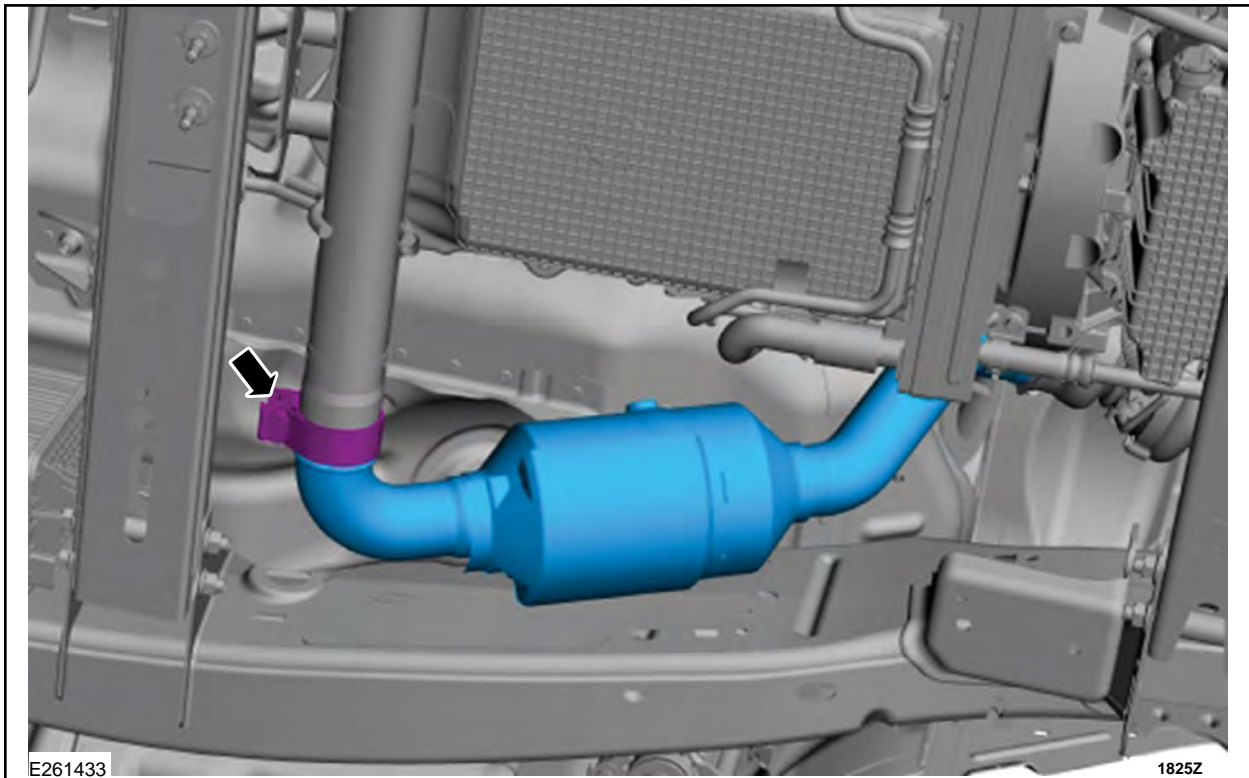

FIGURE 17
33. Loosen the clamp and remove the LH catalytic converter. See Figure 17.